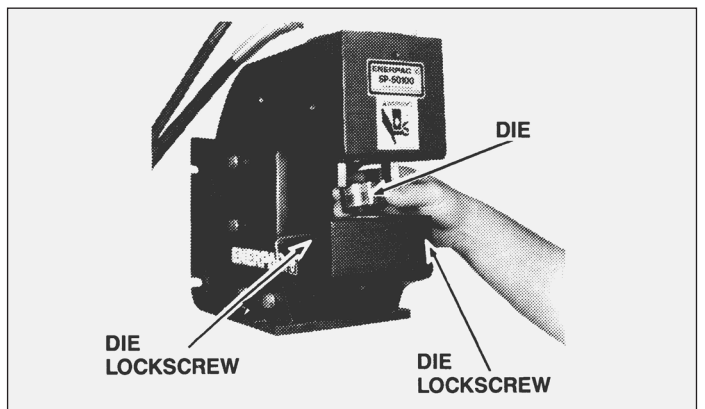

Figure 3
2. Loosen the die retaining lock screws on each side of the throat base. Insert the correct die (figure 3). Tighten the lock screws.